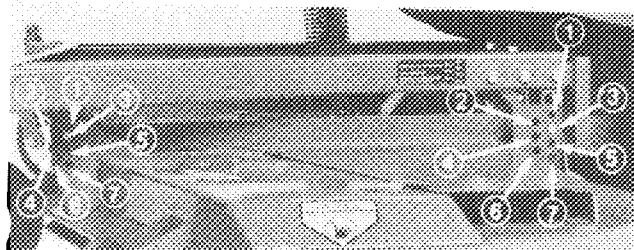

Figure 4
3. Install clevis pins through desired height-of-cut bracket holes and frame to secure cutting unit to frame (Fig. 4). Secure all four pins with hairpins.